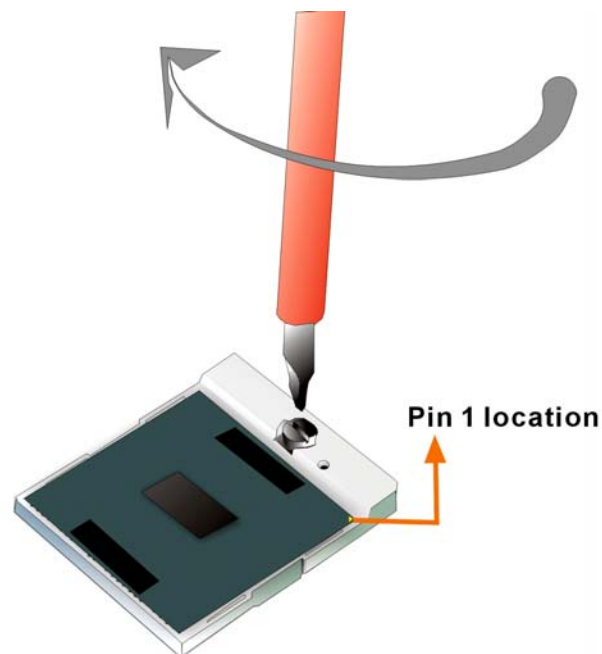

Figure 5-2: Lock the CPU Socket Retention Screw
- Step 8:** Rotate the retention screw into the locked position. (See **Figure 5-2**)